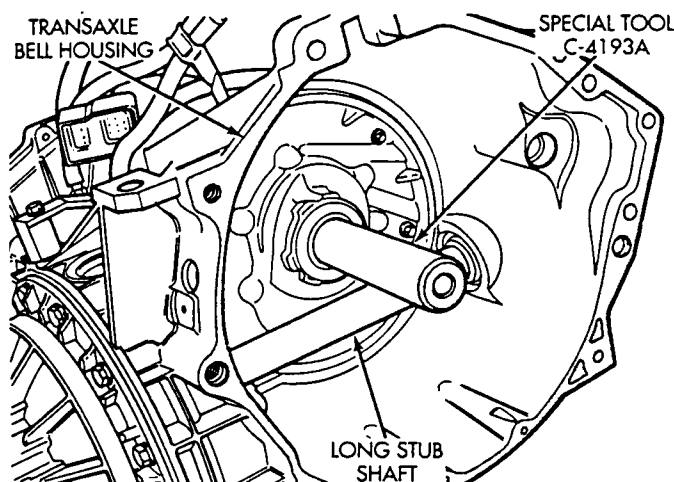

Fig. 6 Oil Seal Installation
- (1) Clean and inspect oil pump seal seat. Then install seal using special tool C-4193A (Fig. 6).